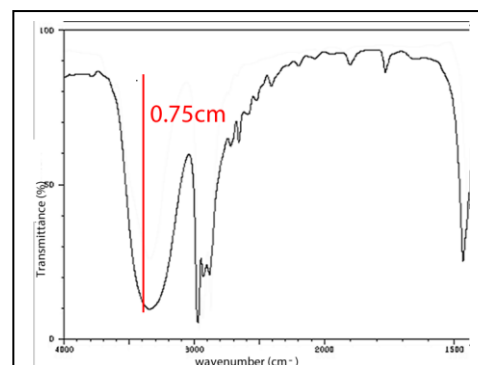

Figure 4 – IR transmittance of ethanol
3. You are provided with the IR spectrum of an unknown ethanol solution in fig 4. The absorbance (measured as trough height) of the O-H stretch band around 3400 cm^{-1} for the ethanol sample is 0.75 cm . A calibration curve is to be created using solutions of ethanol, and the following transmittance (trough heights) data was obtained, table 1, for the O-H stretch